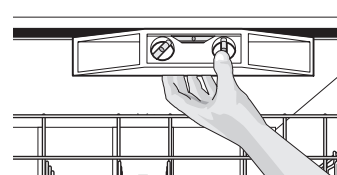

Figure 5a
- Check that dishwasher is level from side to side by placing a level against the top front section of the tub. **See Figure 5a.**